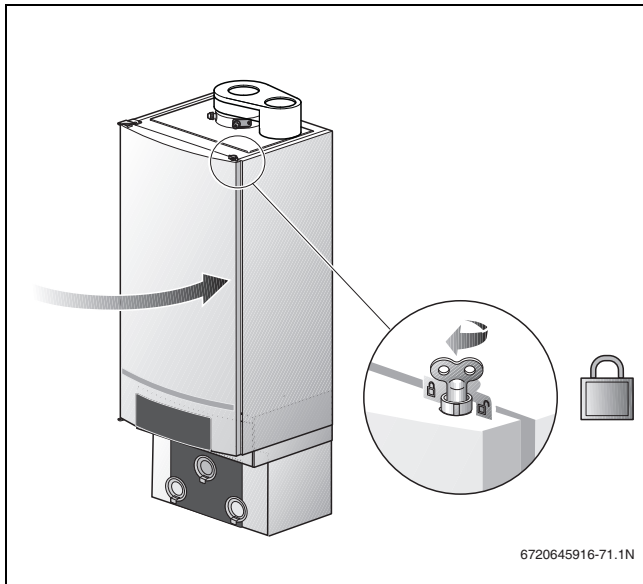

Fig. 74 Closing the boiler door
- ▶ Close the boiler door (→ fig. 74) and lock the fastener by turning the vent screw through ¼ rotation in a clockwise direction.